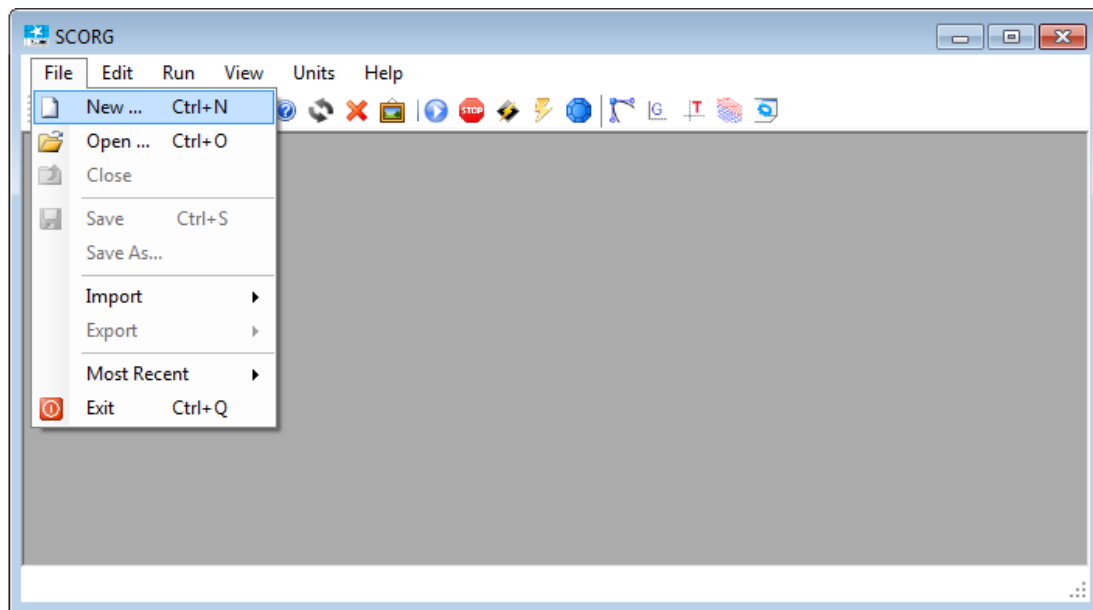

**Figure 1-1** Pressure Variation diagram of a Twin Screw Compressor (Kovacevic, et al., 2007)
- Obtain the pressure field inside the rotor chamber and in the suction and discharge domains. Example shown in *Figure 1-1*.